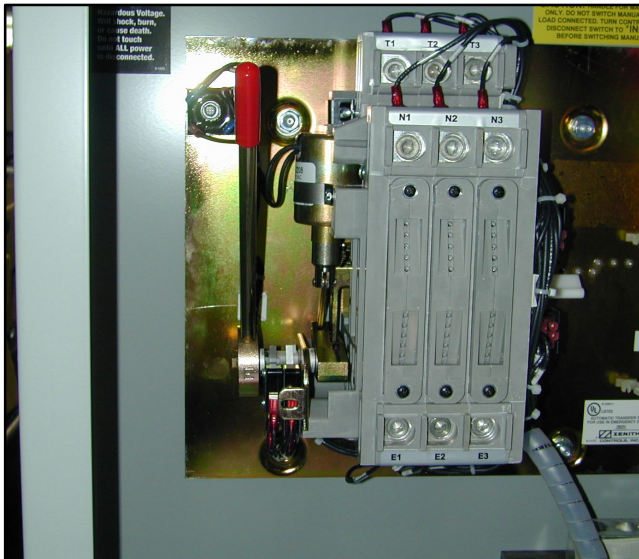

Figure 7-53 Manual Operation Handle Inserted
11. Manually operate the switch several times to ensure that it does not stick. See Figure 7-53.